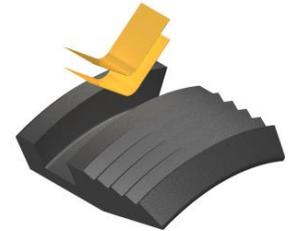

Fig. 2
**NOTE3:** Install two (2ea) springs per slip (Fig. 2).